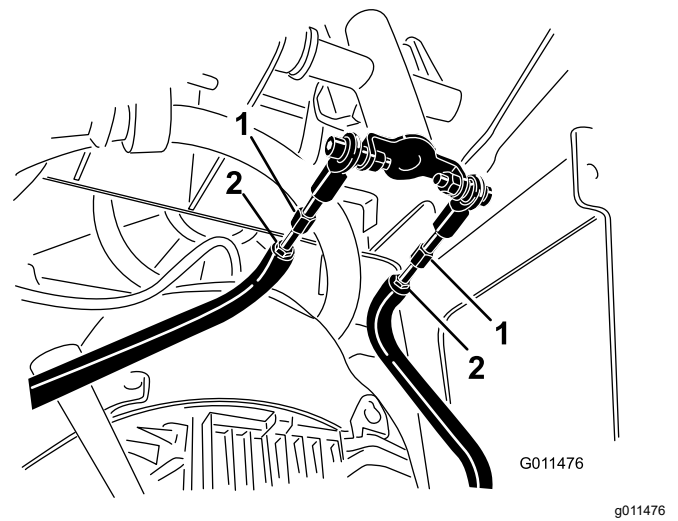

Figure 54
- Loosen the jam nuts on the traction rods, under the control panel (Figure 54).